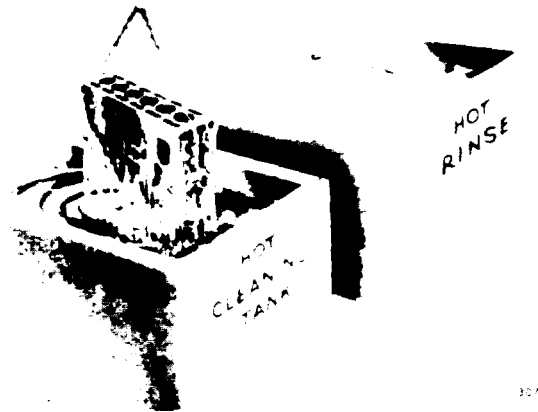

Figure 11B-7. Cleaning Cylinder block
1. Remove the grease by agitating the cylinder block in a hot bath of commercial heavy duty alkaline solution (see Figure 11B-7).